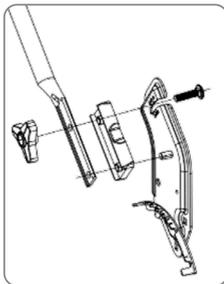

Fig. 1
1. Remove the lower handlebar. Insert the insulating plate into the left and right handlebar slots. Align them all and fasten them with two M8×35 carriage bolts and secure using the triangle locking knobs (Fig. 1). (Note: For the manual push model, replace M8×35 bolts with M8×26 bolts. Do not use the insulating plate).